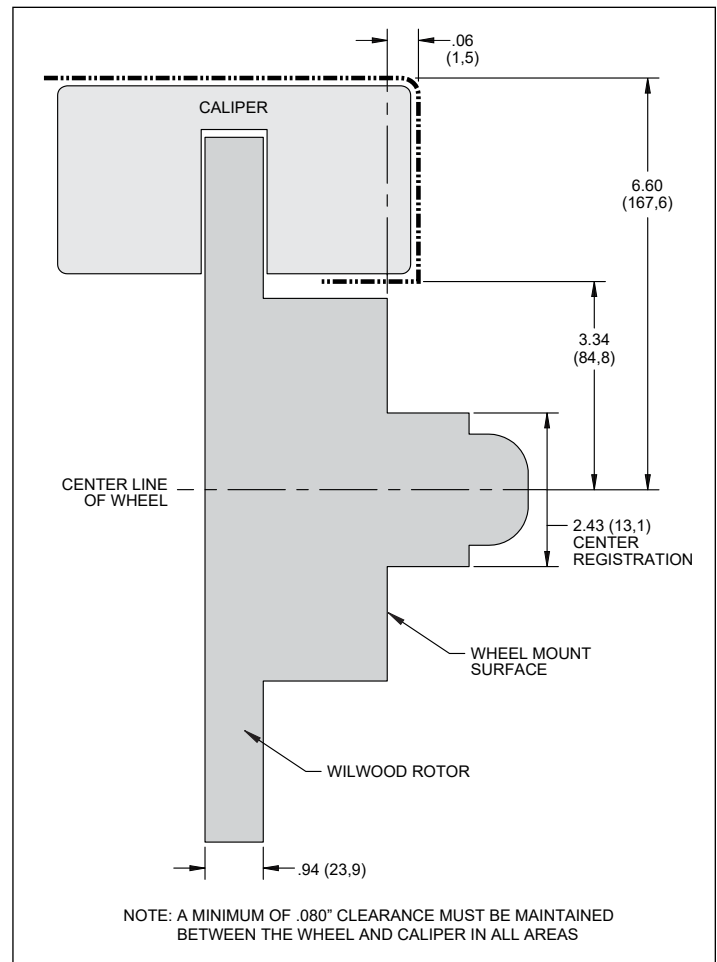

Figure 2. Wheel Clearance Diagram for p/n 140-16801
- Review the Wheel Clearance Diagram (Figure 2, page 3) to verify that there is adequate clearance with the wheels you will be using with the installation.
- Verify your wheel clearance using Figure 2.